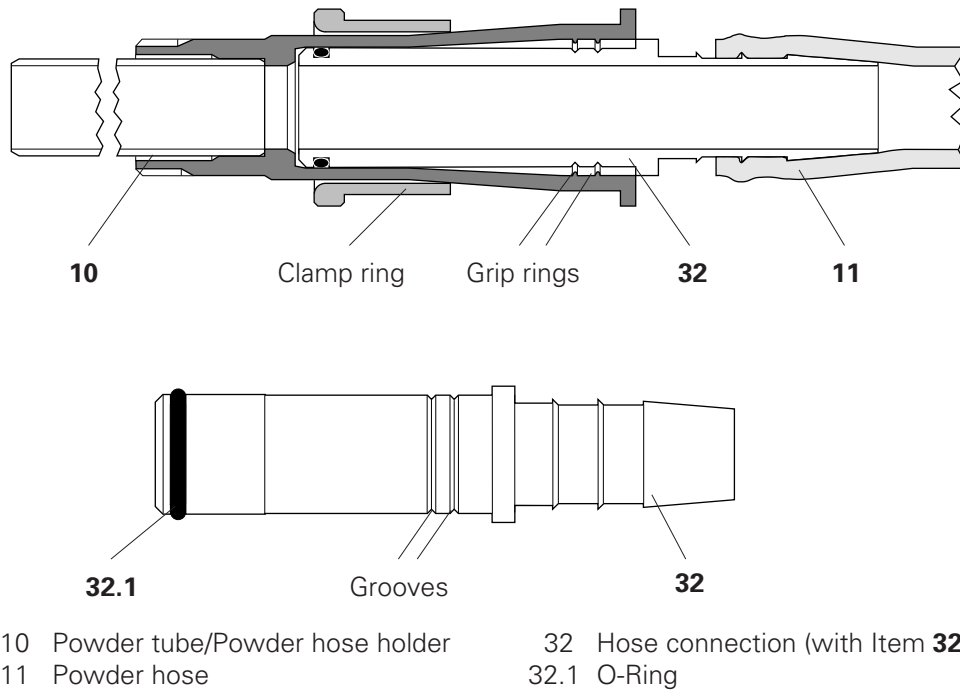

Figure 13.
2. Detach the powder hose connection (**32** - Fig. 13, page 15) at the powder hose connector (**10** - Fig. 10, page 12).
Powder hose connection (See Fig. 13, page 15)